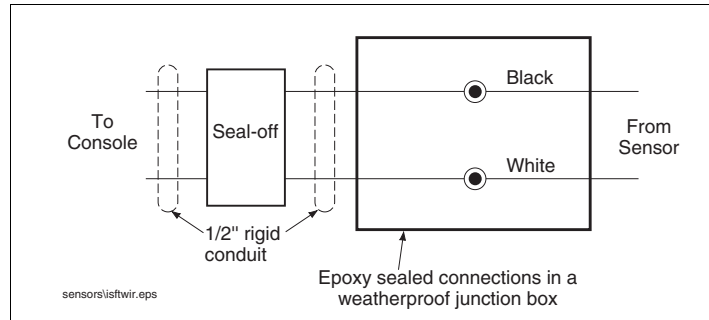

Figure 4. Sensor Field Wiring Diagram
5. Install the cord grip from the Cable Seal kit into the field junction box. Push the sensor cable into the junction box through the cord grip. Using the wire nuts from the kit, connect the sensor cable to the console cable as shown in Figure 4. Tighten the cord grip.
3. Install the cord grip from the Sensor Install Kit into the field junction box. Push the sensor cable into the junction box through the cord grip. Using the wire nuts from the Sensor Install Kit, connect the sensor cable to the console cable as shown in Figure 4. Tighten cord grip.